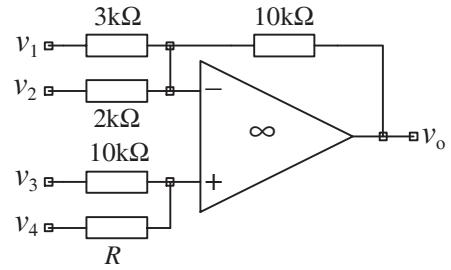

Figure 5
- Q5** The three input voltages for the circuit of figure 5 are: